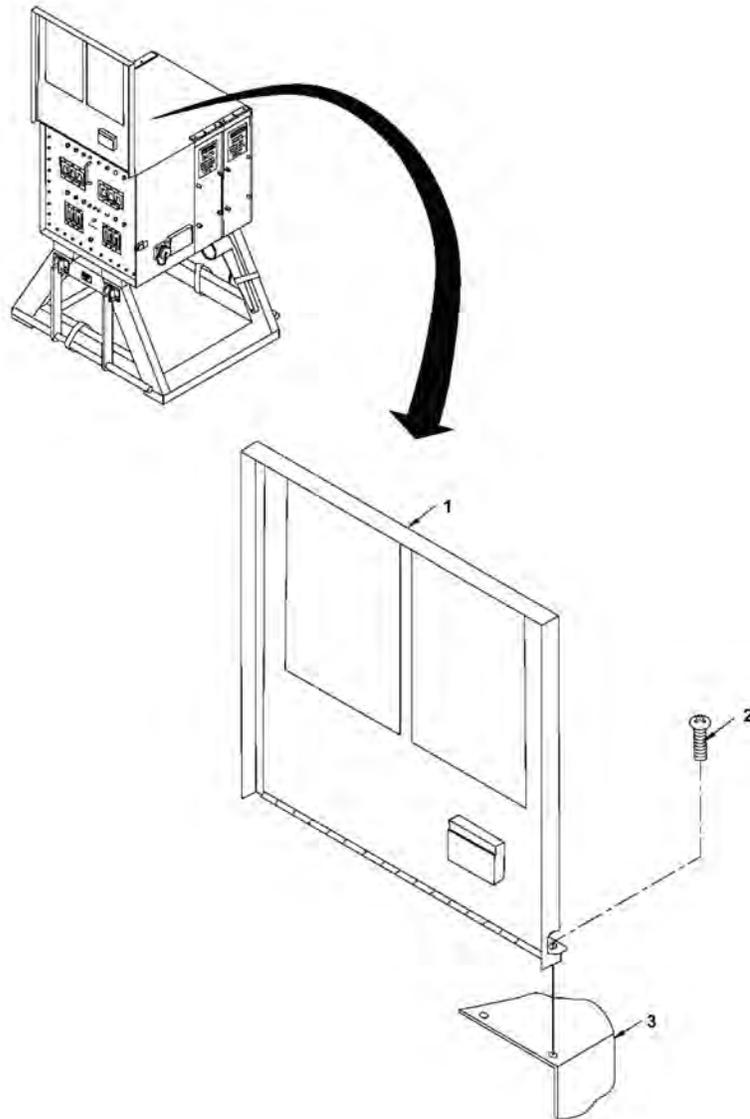

Figure 1. Circuit Breaker Panel Cover.
4. Position circuit breaker panel cover (Figure 1, Item 1) on top of PDB (Figure 1, Item 3) and align holes in hinge with holes on PDB.
5. Install nine screws (Figure 1, Item 2) to secure circuit breaker panel cover (Figure 1, Item 1) on top of PDB (Figure 1, Item 3).
6. Close and latch left and right fasteners on sides of PDB (Figure 1, Item 3) to secure circuit breaker panel cover (Figure 1, Item 1).